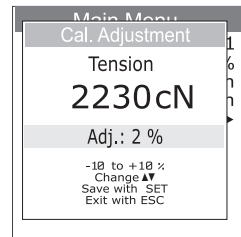

fig. 3.5.6b
- Select the „Cal. Adjustment“ menu item from the main menu (fig. 3.5.6b)